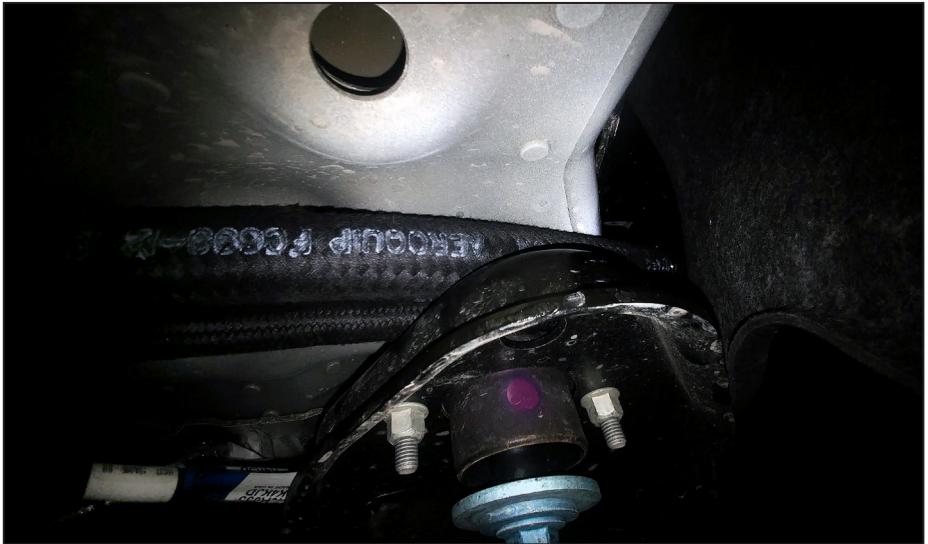

Figure 23 — Route hoses
- Route the hose bundle down between the frame and the fender liner, toward the rear of the vehicle (Figure 23).